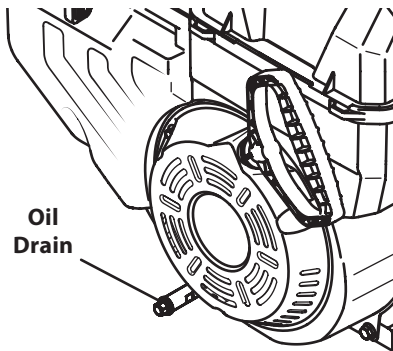

Figure 6-3
6. Remove the Oil drain plug. See "Figure 6-3".
12. Fill with the recommended Oil. See "Figure 6-3".